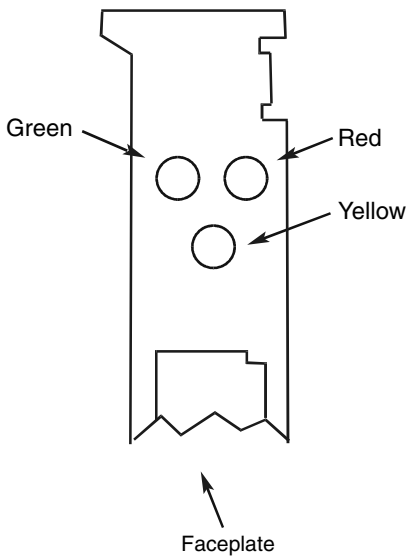

Figure 18. Analog Network Interface Board LEDs
1. Locate the set of three LEDs located on the faceplate of the DM3 board. These LEDs are shown in Figure 18.